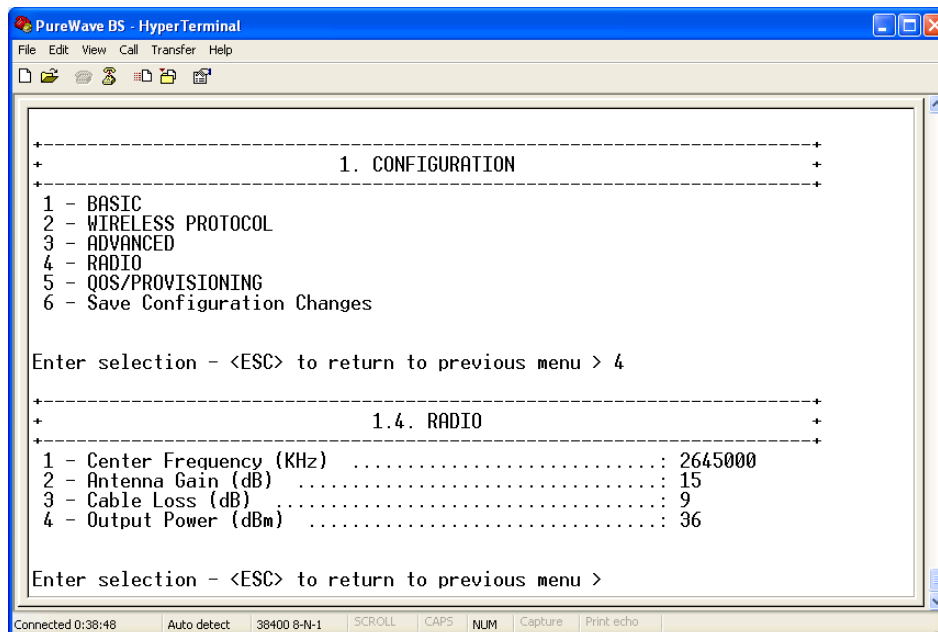

Figure 64 - Base Station CLI Radio Configuration
- 10) Select #4 (*RADIO*) from the *1.1 BASIC CONFIGURATION* menu and assign the following radio parameters. It is important that you set all 4 parameters especially the Frequency (this much match with the CPEs) and the Output Power (figure 64).